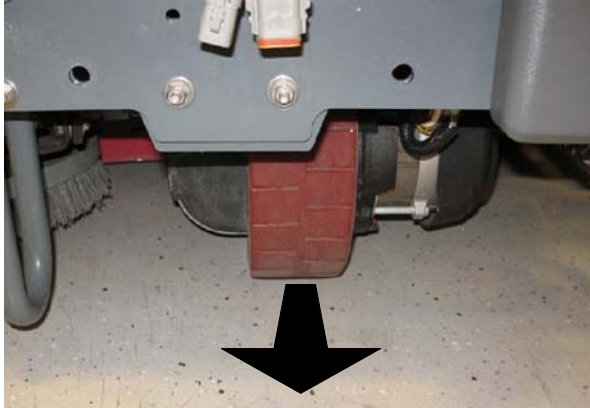

FIG. 42
16. Straighten the front wheel so it is pointing forward. (Fig. 42)